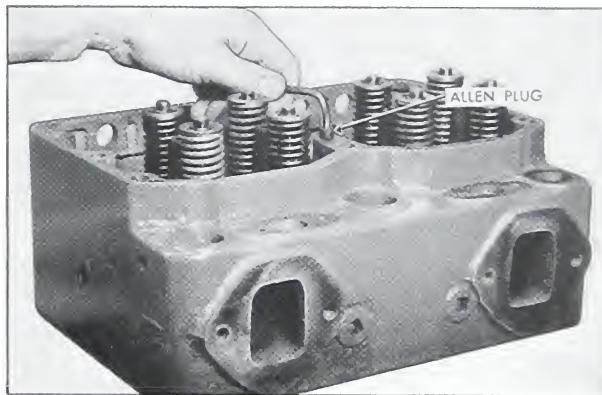

Fig. 12-1. Breather hole in cylinder head
2. Make sure that H and NH cylinder heads have the top breather hole open. HS, NHS and NHRS heads must have the breather hole plugged with a $\frac{1}{8}$ " Allen pipe plug. The breather hole is located at the top of the cylinder head and between the center stud holes. Fig. 12-1.